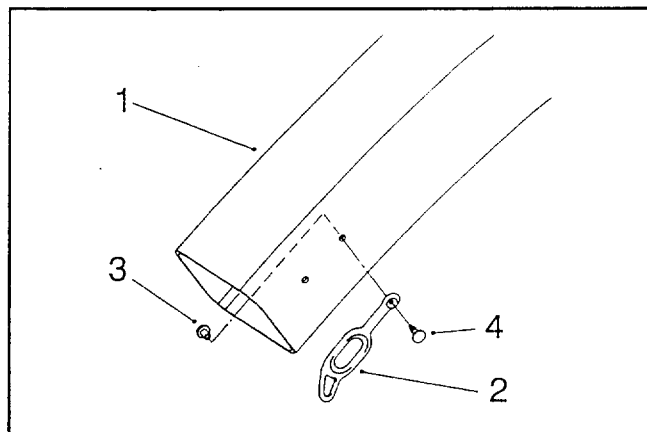

Figure 11
2. Attach the rubber latch to the top hole in the discharge tube using the plastic two-piece fastener (Fig. 11). Install the flanged spacer through the hole in the discharge tube from the inside. Place the rubber latch (grip tab up) over the spacer shaft, then insert the barbed fastener into the hole in the spacer and push them together.